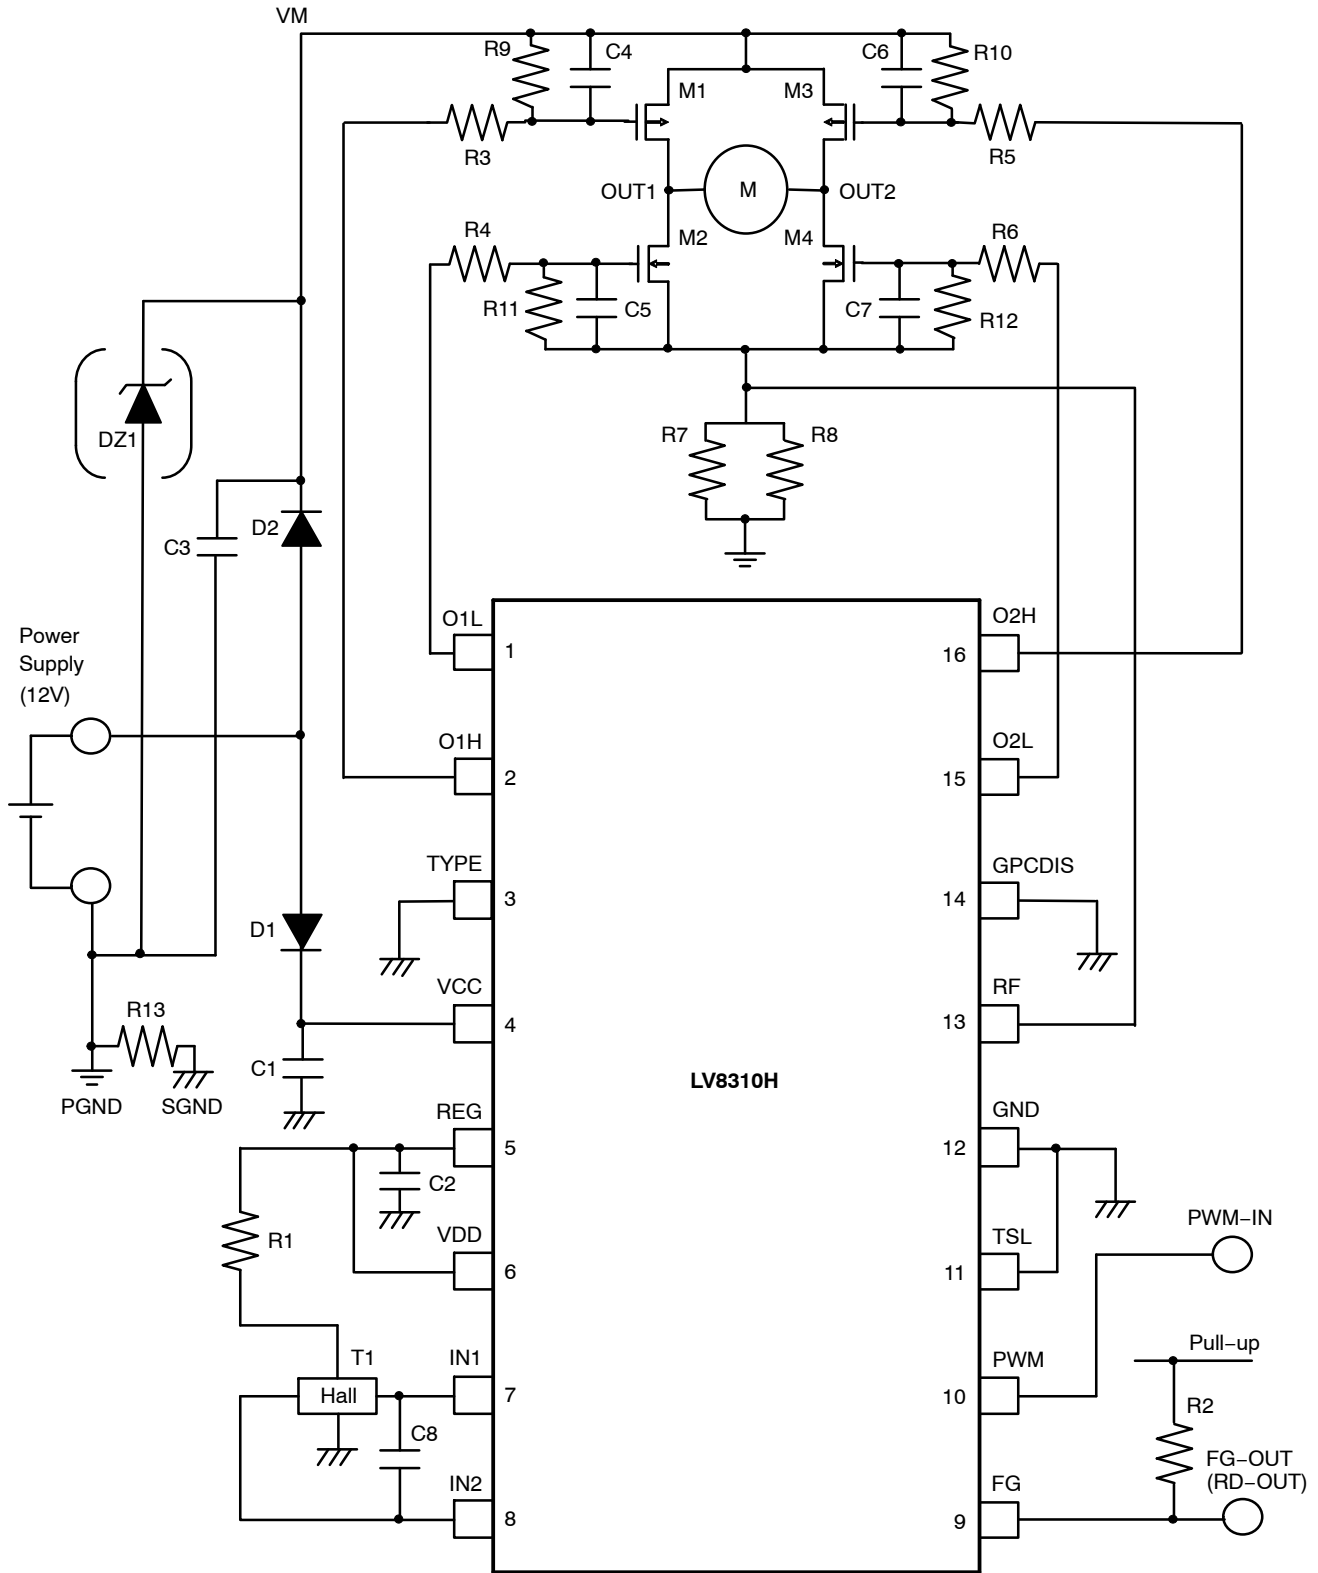
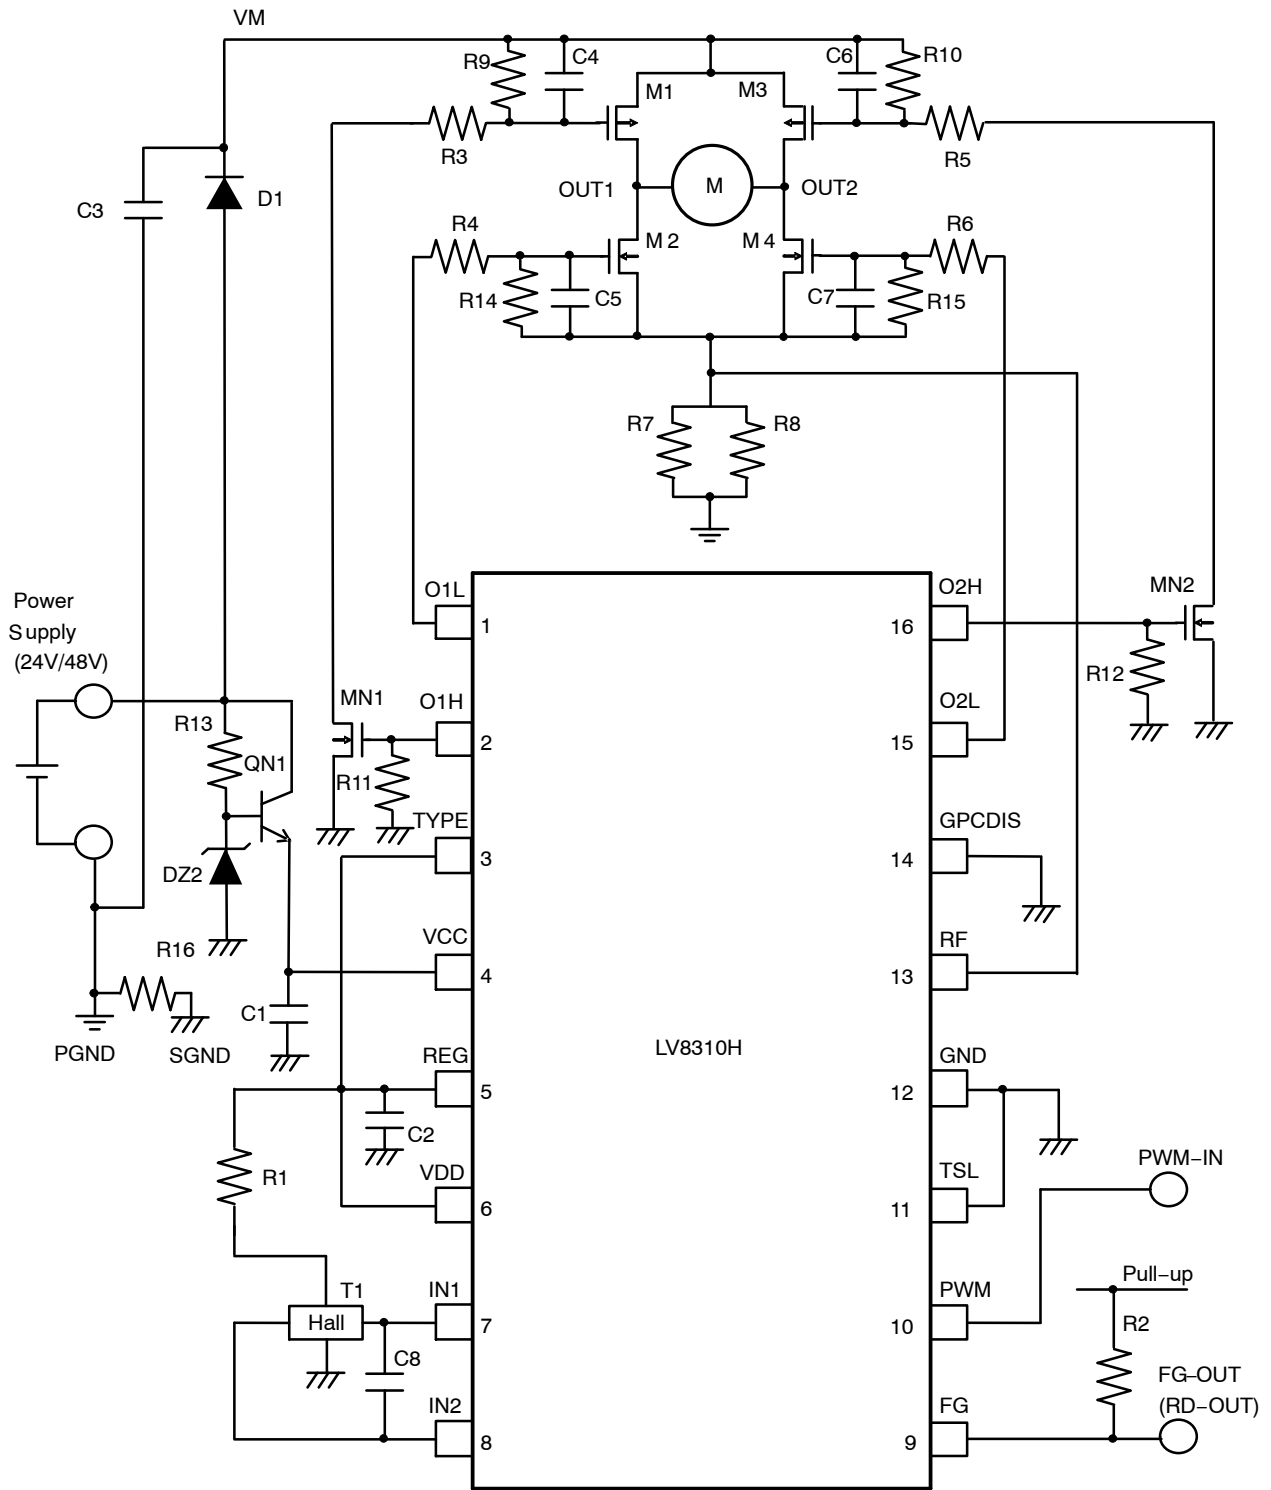

Figure 1. Example of Application Diagram for 12 V
Figure 2. Example of Application Diagram for 24 V/48 V
Figure 1 shows 12 V application diagram of the chip and Figure 2 shows the higher voltage (24 V/48 V) application diagram of the chip. For 12 V application, the REG and
**Table 1. EXAMPLE OF EXTERNAL COMPONENT VALUE FOR 12 V APPLICATION** (Figure 1)
**Table 2. EXAMPLE OF EXTERNAL COMPONENT VALUE FOR HIGHER VOLTAGE APPLICATION** (Figure 2)
**Table 2. EXAMPLE OF EXTERNAL COMPONENT VALUE FOR HIGHER VOLTAGE APPLICATION** (Figure 2) (continued)
The Zener diode (DZ1) in Figure 1 is mandatory to prevent the IC break down in case the supply voltage exceeds the absolute maximum ratings due to the flyback voltage.